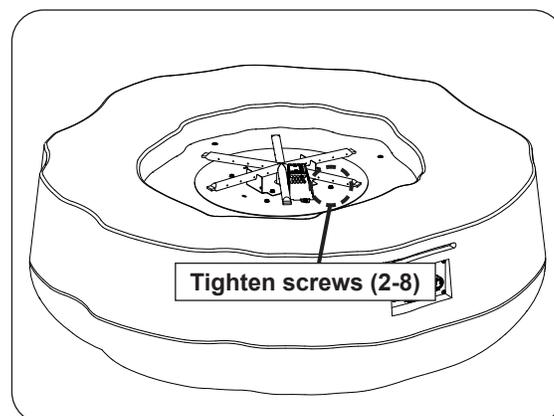

Fig. 40-3 Secure burner
2. Use a 5/16" nut driver to fasten the burner to the base (see Fig. 40-3).